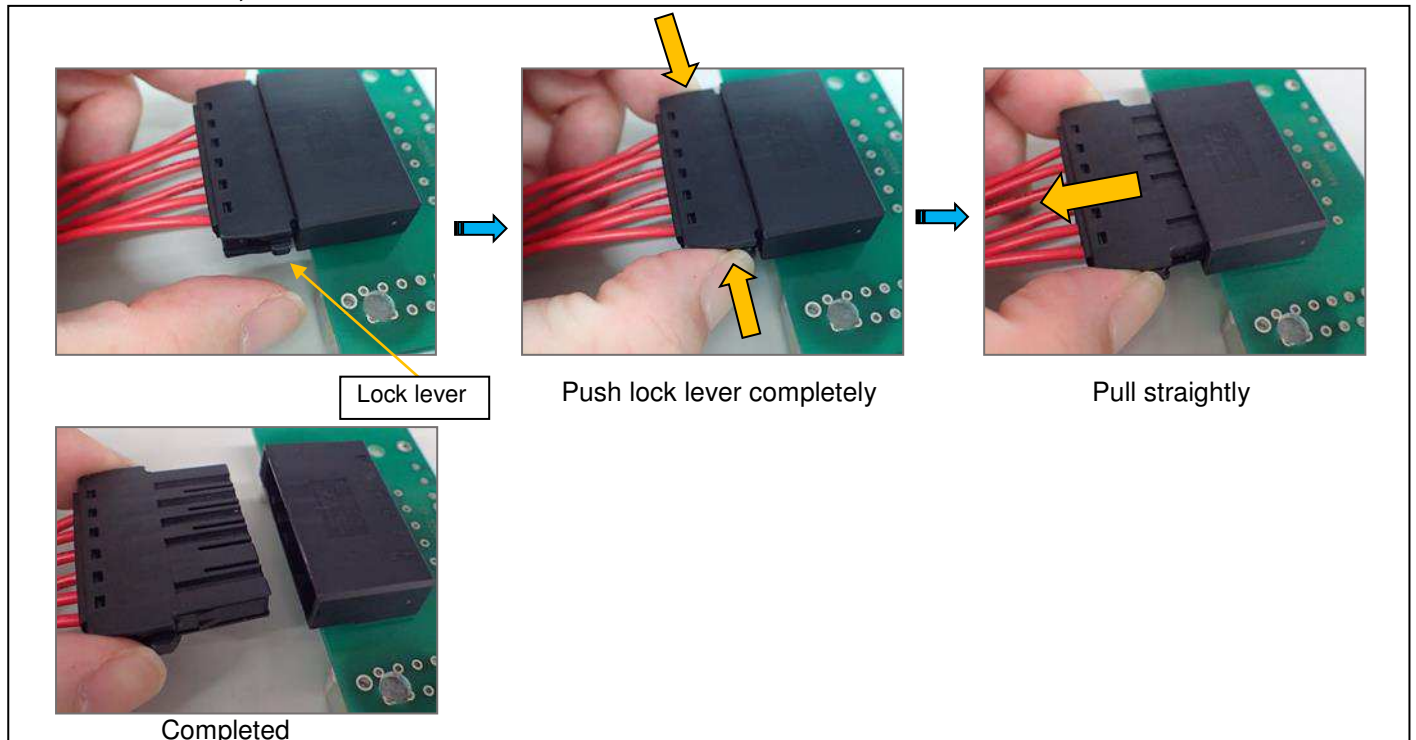

Fig.10 Unmating
6. Unmating Receptacle Assembly and Header Assembly (Fig.10)